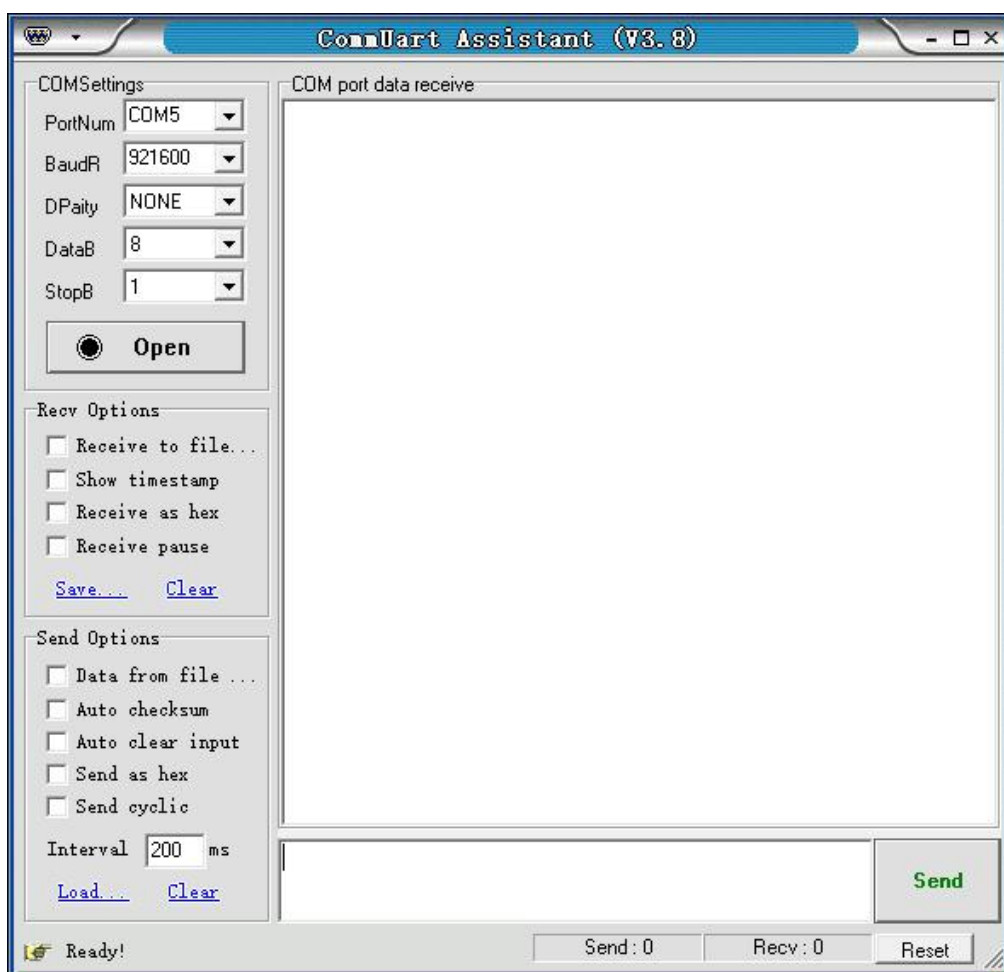

Fig.72 “CommUart Assistant” Software Display
3. Open the folder "Uart Driver" in your disk and double click the file UartAssist.exe. It will call out the software interface, as is shown in Fig.72.